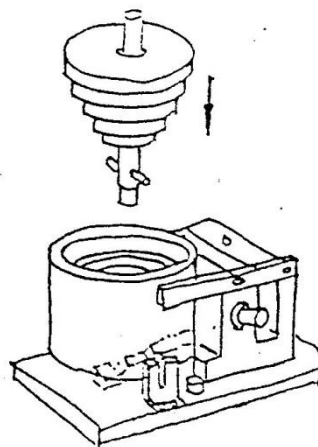

Fig3
- 6) Hold the top of the weight shaft, put it into the weight housing, and turn the weight shaft to make its cross pin in the V-groove of the lever. (Fig. 3)